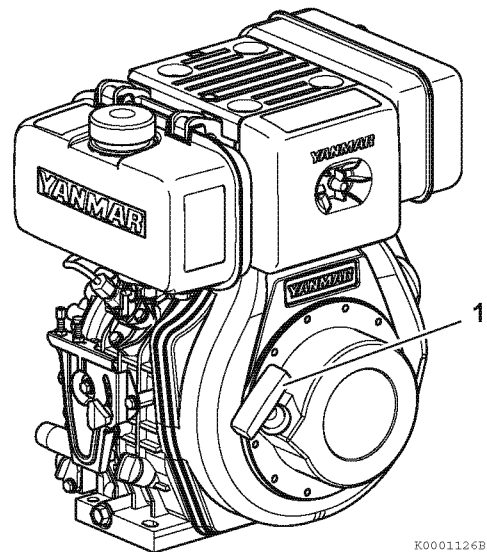

Figure 7
1. Grasp the recoil starter handle (1, **Figure 7**).
5. Grasp the recoil starter handle (1, **Figure 7**).